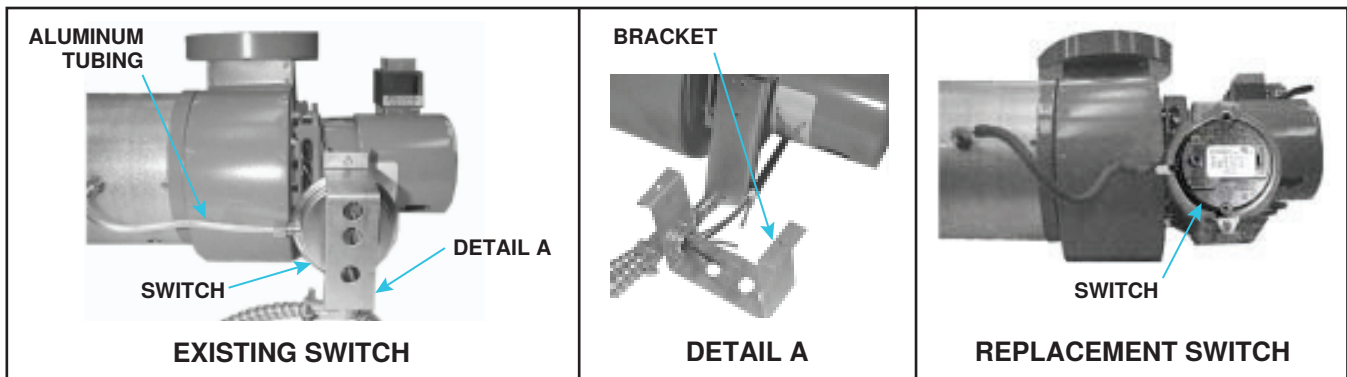

Figure 33. Pressure Switch Assembly (Model (H)EEDU)
2. Locate and remove existing pressure switch (see Figure 33) on venter assembly on top rear of heater:
4. Install replacement pressure switch (see **Figure 33**):